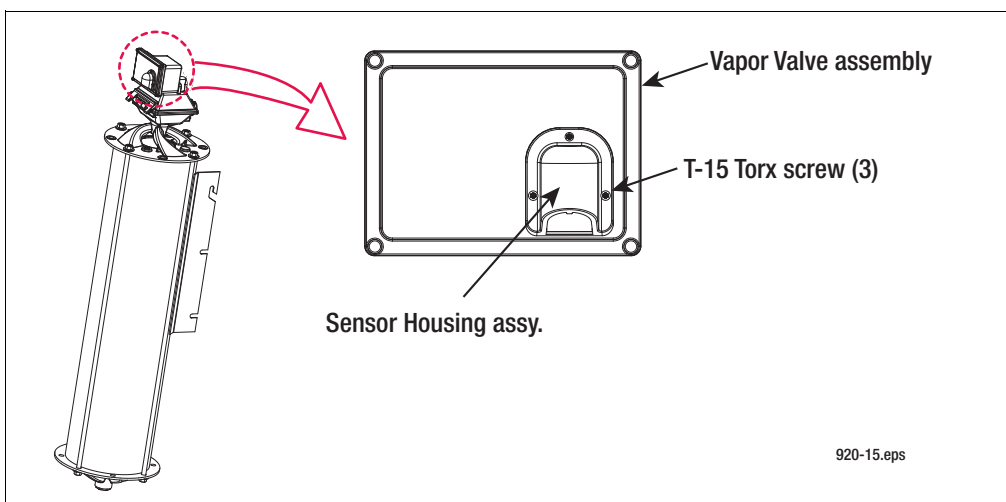

Figure 14. Removing Sensor Housing Assembly
1. Remove the three T25 Torx screws holding the sensor housing assembly to the vapor valve assembly (see Figure 14).